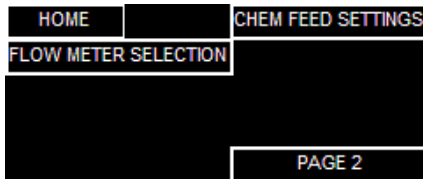
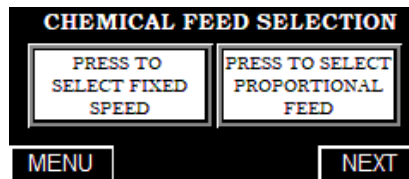

Figure 7. Menu Screen
Figure 8. Chemical Feed Screen
Once the Flow Meter Settings have been set, press the Next button to be taking to the Chemical Feed Selection, as shown in figure 7. If the pump will be pumping at a fixed speed when flow is detected, press the Fixed Speed button on the Chemical Feed Selection, as shown in figure 8, then press the menu button and navigate back to the home screen. With the pump switch in the Auto (A) position, the pumps will only run when flow is detected.